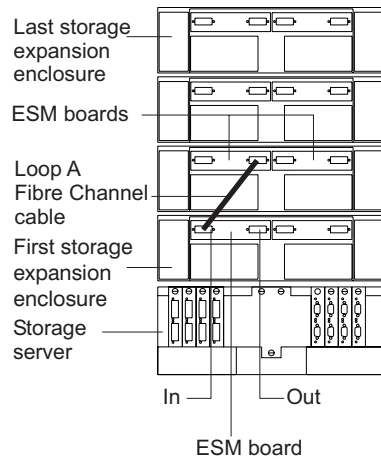

Figure 42. Connecting two storage expansion enclosures into drive loop A
1. Connect the first two storage expansion enclosures to drive loop A, as shown in Figure 42 on page 47.